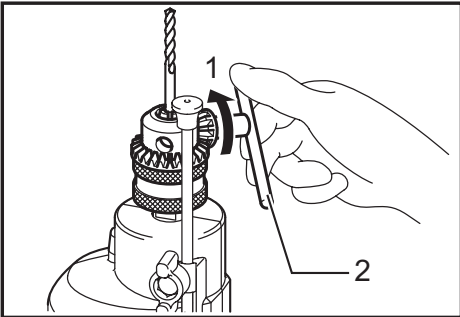

Fig.4
► Fig.4: 1. Tighten 2. Chuck key